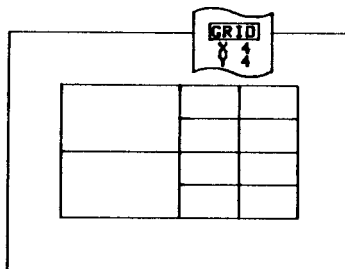

Fig 4
- 6 Reset the X and Y values to 4, reset the grid to the new spacing and halve the rectangles again (Fig 4).